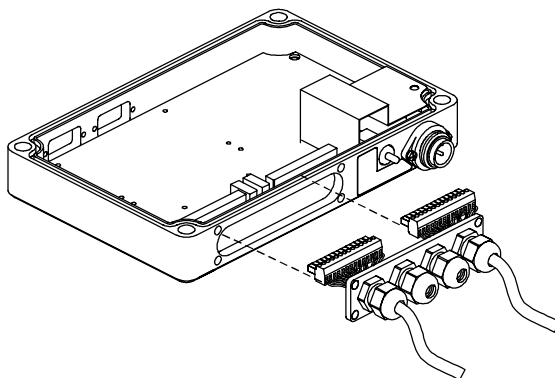
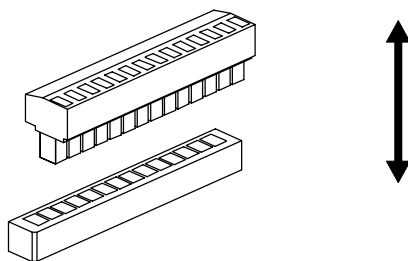

Figure 6 - DP1100 view
Figure 7 - Terminal block connector and base
- 9) After inserting all the wires in the terminal block connectors, pass them through the compression connector panel hole and insert them into the base again (see Figure 6 and Figure 7).